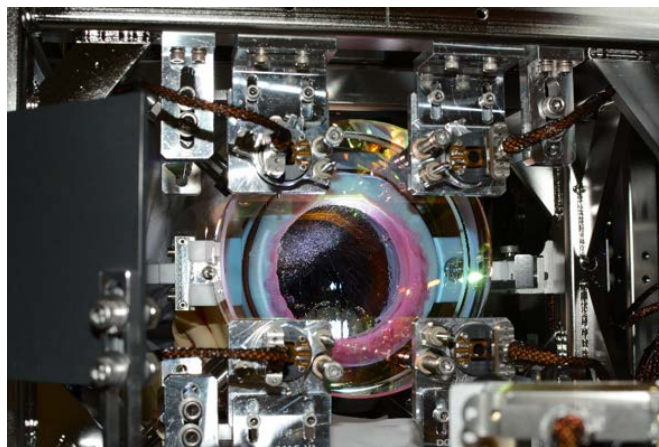

Figure 11. View from AR side of MC1 during spray application of FC on HR side
*Note: The FC will seep into the wipe, as seen in Figure 11. Watch for FC leaking out of the wipe, especially at the 12 o'clock and 6 o'clock positions. If any overspray or leaking is observed, **STOP** spraying immediately and adjust the cone against the optic to get a tighter seal.*